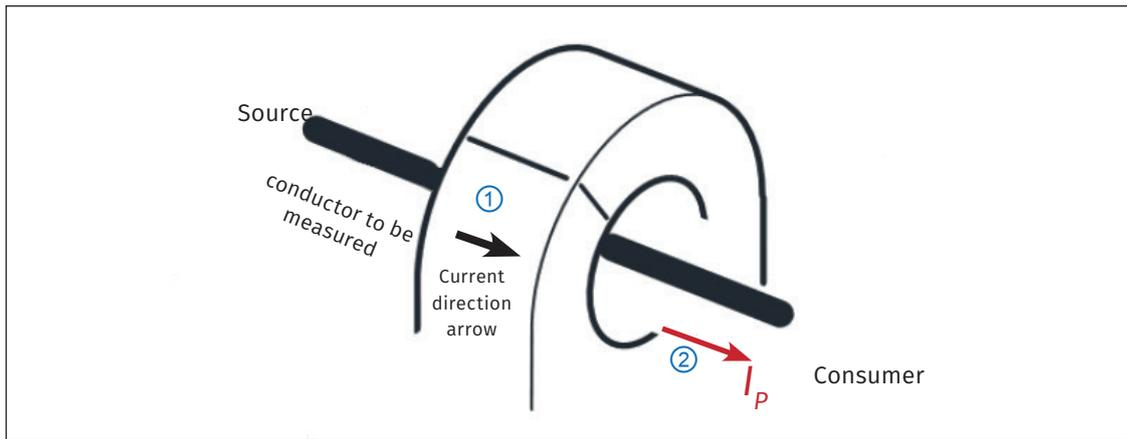

Fig. 1-3: Jaws of the current clamp and the conductor to be measured
<p>The arrow (Fig. 1-3, ①) printed on the top of the current clamp indicates the direction of the flow of the primary current I_p (Fig. 1-3, ②) from the source to the consumer.</p> <p>If the current in the HV cable flows in the opposite direction to the arrow on the top of the current clamp, the current output is inverted.</p>